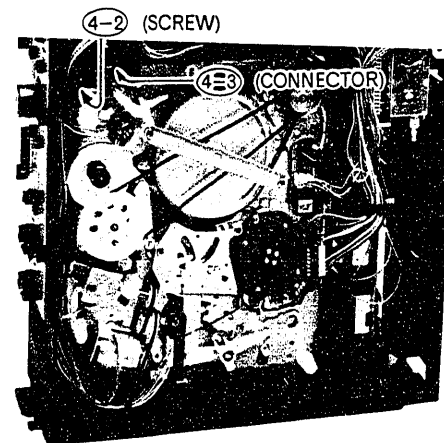

Fig. 19 Cassette Holder Switch
5. Cassette Holder Switch (Fig. 19)